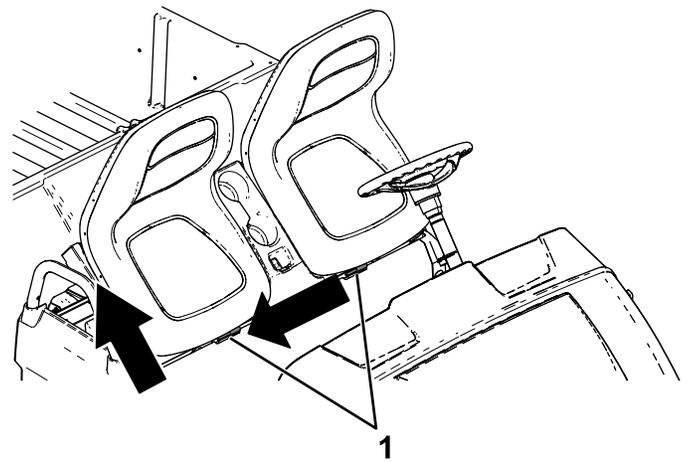

Figure 25
2. Slide the seat assembly to the side out of the pins, and lift the seat assembly upward (Figure 25).